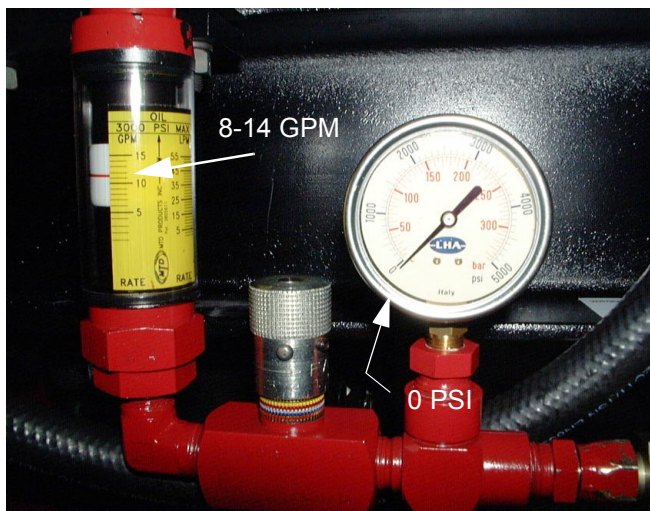

Figure 4
- Record the GPM of the fluid flow at the flow meter. \_\_\_\_ See Figure 4.